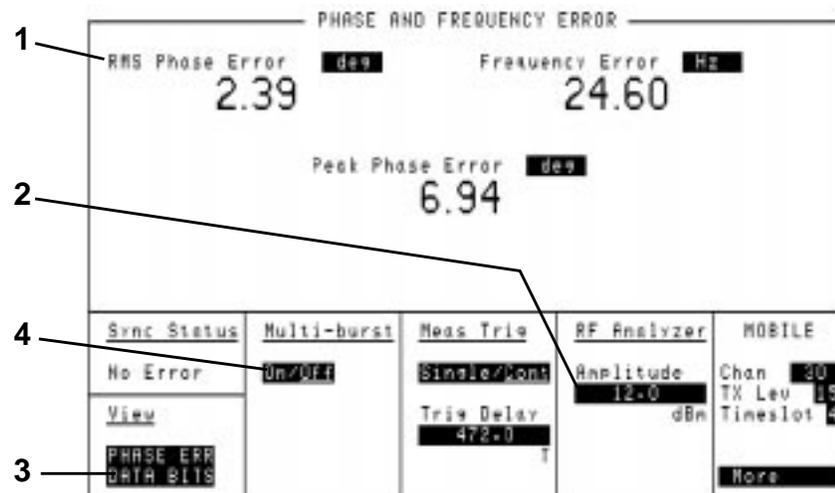

Figure 2-7
The measurement fields in this screen are RMS Phase Error, Peak Phase Error and Frequency Error (1), see Figure 2-7 on page 2-15.